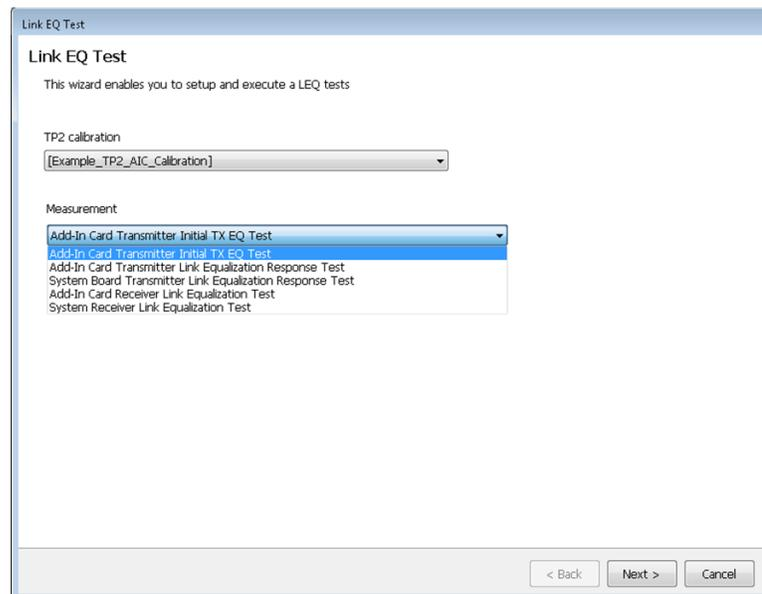

Figure-33: Link EQ test wizard
5. Upon clicking on the ‘Link EQ Test’ button, the Link EQ Test wizard is displayed as shown in Figure-33
6. Upon clicking on the 'Link EQ Test' button, the Link EQ Test wizard is displayed as shown in Figure-33